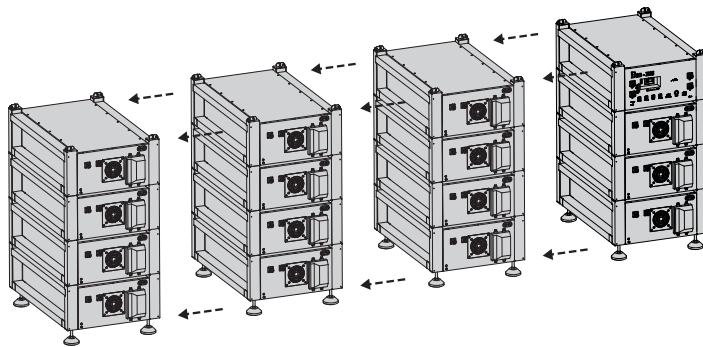
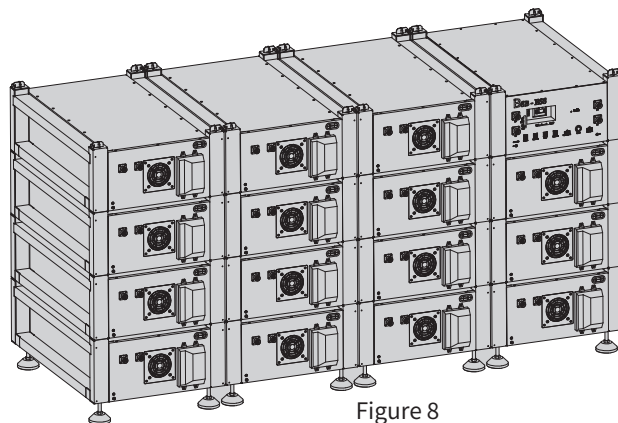

Figure 7
Figure 8
Step 4: As shown in the figure 7 & figure 8, place the stacked four layers side by side in sequence.